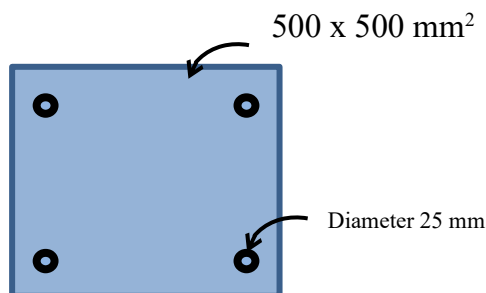

**Figure 1**
11. (a) A member ABCD is subjected to a point load of  $P_1, P_2, P_3, P_4$  as shown in figure 1. Calculate the force  $P_2$  Necessary for equilibrium. If  $P_1 = 45$  kN,  $P_3 = 450$  kN &  $P_4 = 130$  kN. Find the total elongation of the bar. Take young's modulus of the bar is  $2.1 \times 10^5$  N/mm2.